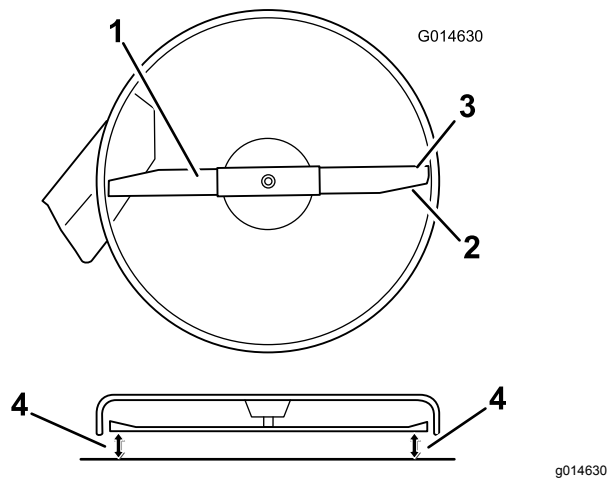

Figure 52
4. Carefully rotate the blade(s) so that they are all side to side (Figure 52).
5. Measure between the outside cutting edges and the flat surface (Figure 52).